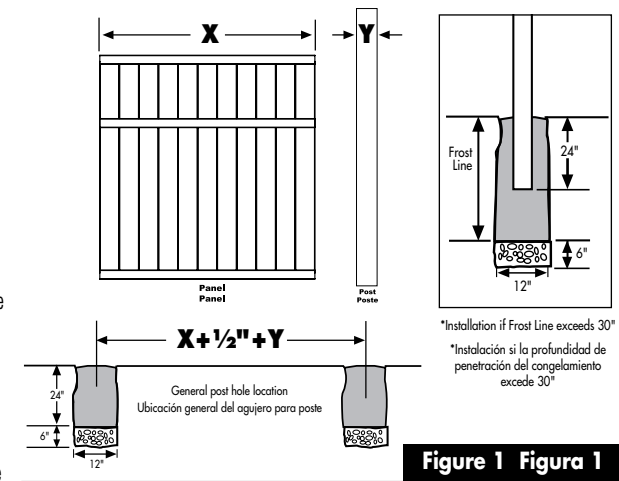

Figure 1 Figura 1
- \*If frost line exceeds 30" (Figure 1) Dig hole to the appropriate depth Add 6" of gravel for post drainage Add concrete until a depth of 24" remains Follow above instructions from step (c)